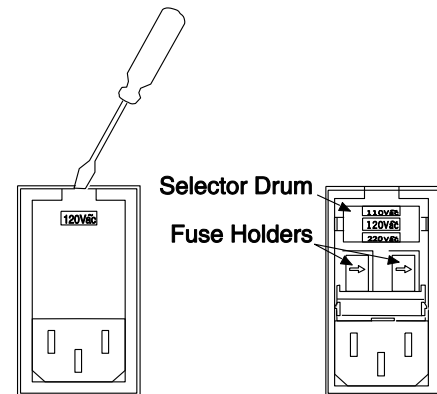

Figure 94. Power Input Module
1. As shown in Figure 94, place the flat side of a flat bladed screwdriver parallel to the back of the Controller and behind the small tab at the top of the power module, and twist the screwdriver slowly but firmly to pop the module open.